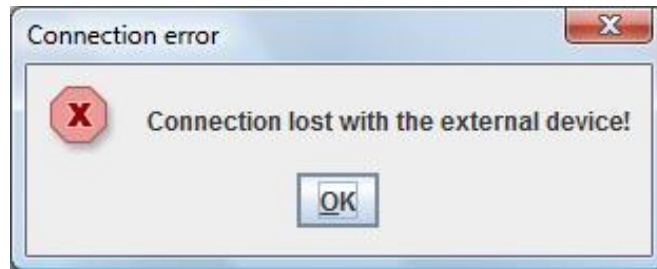

Fig. 7. RVLM – Loss of connection
- The RVLM can not be disconnected from the computer while the tests are running, nor the computer can be shut down or the session closed. Any of these operations leads to an immediately end of the test with loss of data acquired and set up. If any of the case occurs, the box "Connection Error" appears (fig. 7) Push "OK".